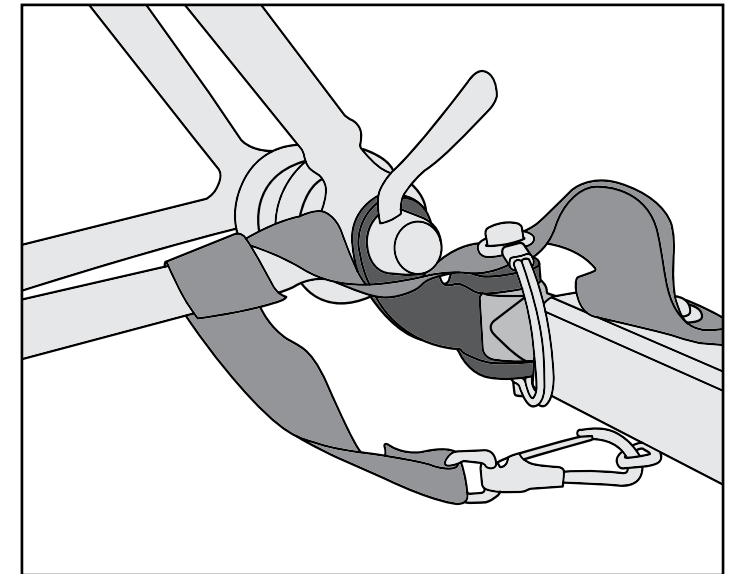

Figure 18
- Hooking the tow bar to the hitch:** Insert flex connector between the two holes on the hitch. Insert retaining pin and close retainer. Wrap safety strap around the frame of the bike twice and latch to the D-ring on the tow bar (Figure 18). The strap and latch should not be making contact with the spokes.